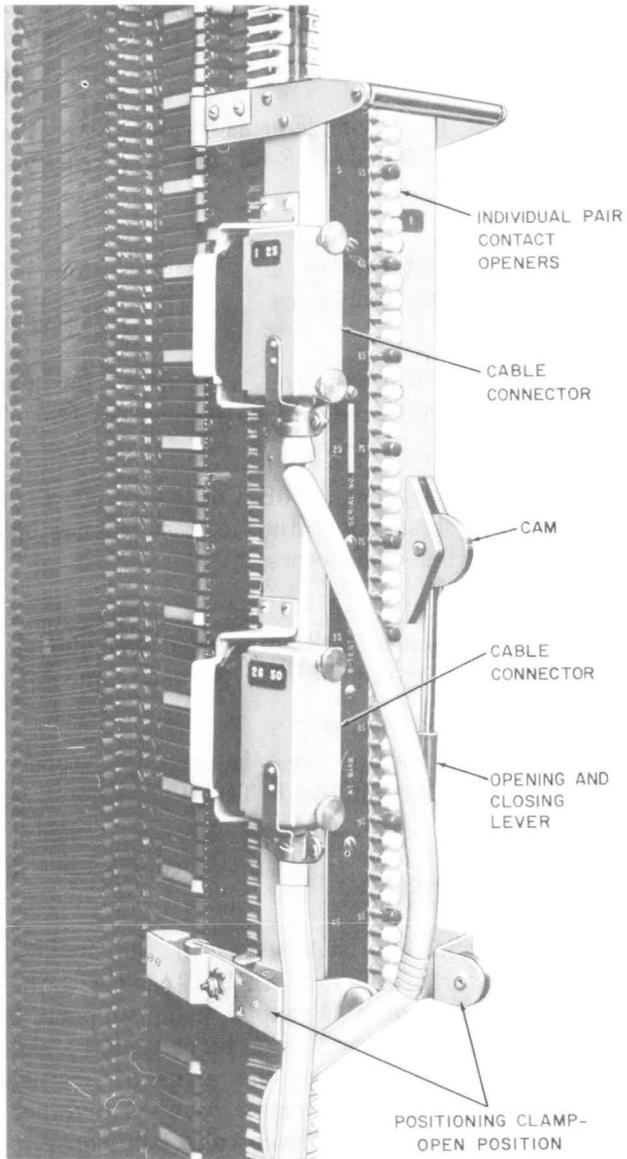
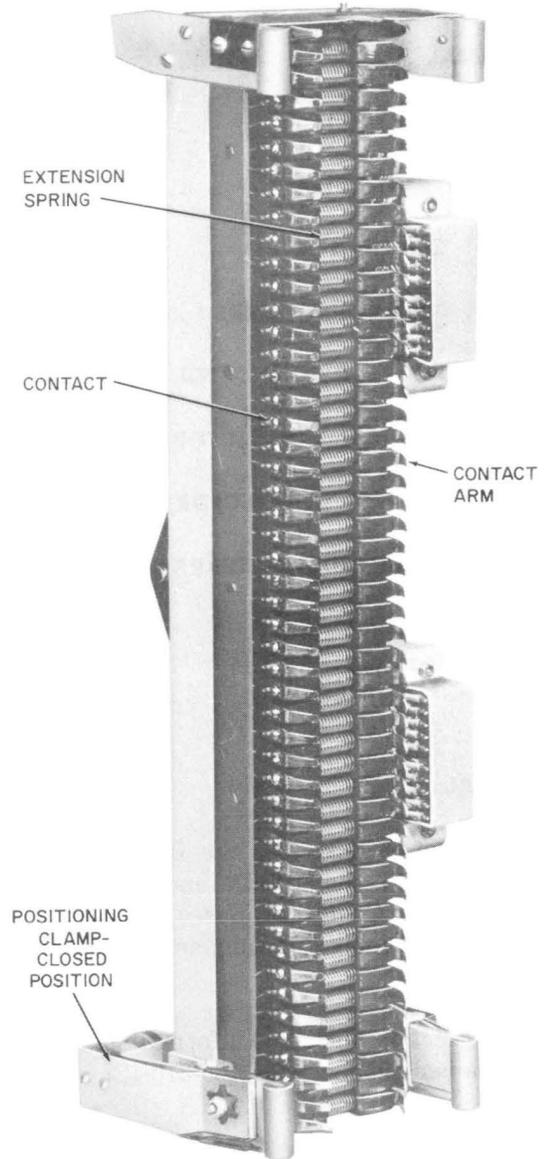

Fig. 1—B Test Connector on C-50
Fig. 2—B Test Connector—Rear View
2.01 The front and back views of the B Test Connector are shown in Fig. 1 and 2. The connector consists of a U-shaped main support, a cam, a lever which actuates a hinged plate, and 50 pushrods that press on the arms of contact supports. The contact supports are pulled together by extension coil springs, which cause the contacts to press firmly against the springs on the cable side of a protector mounting.
6.01 The B Test Connector is readied for placing on C-50 and similar type protectors by grasping the handle at the upper end of the connector with the left hand, and moving the cam lever fully upward with the right hand to open the contacts. The positioning clamps are extended or rotated from the closed position shown in Fig. 2 to the open position shown in Fig. 1.
6.11 Remove the cords by unscrewing the screw jacks on them. Turn each screw jack simultaneously until the plugs come away squarely from the connectors. Move the lever on the B Test Connector to the upper position. Grasp the lifting handle at the top of the connector. Open the clamps at the bottom of the connector and move the test connector horizontally outward away from the protector. With the test connector standing vertically, move the lever downward again closing the contacts. The positioning clamps should then be returned to the position shown in Fig. 2.